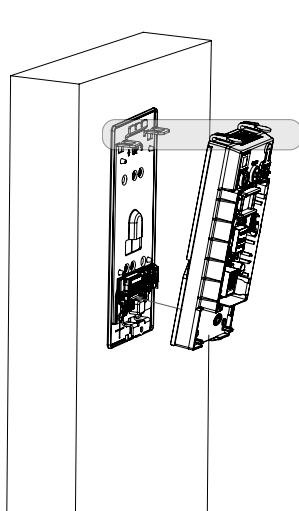

Figure 11-4D
1. Insert bottom tab of controller (ensure a clear path) into slot on mounting plate (Figures 11-4D, 11-4E)
2. Ensure proper alignment of board-to-board connectors (Figure 4E) while pivoting controller toward door until two tabs on top snap securely into place on mounting plate (Figure 11-4D)